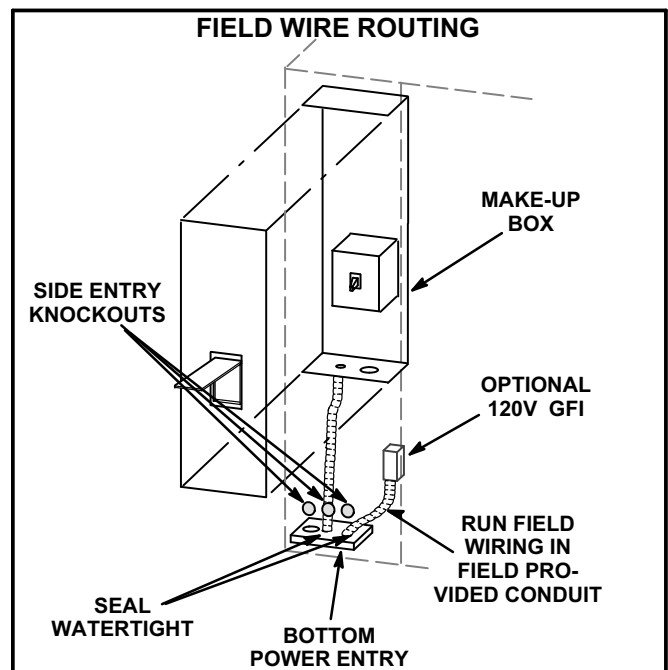

FIGURE 14
Route field wiring in conduit between bottom power entry disconnect. See figure 14. This does not supersede local codes or authorities having jurisdiction.
- 3- Connect separate 120v wiring to optional GFCI outlet. Route field wiring in conduit between bottom power entry and GFCI. See figure 14.